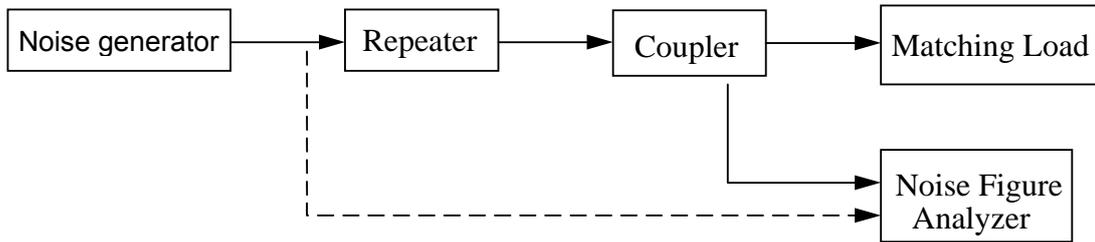

figure 4.3.3
1. Connect testing system according to figure 4.3.3 (make the calibration according to the dotted line before test)